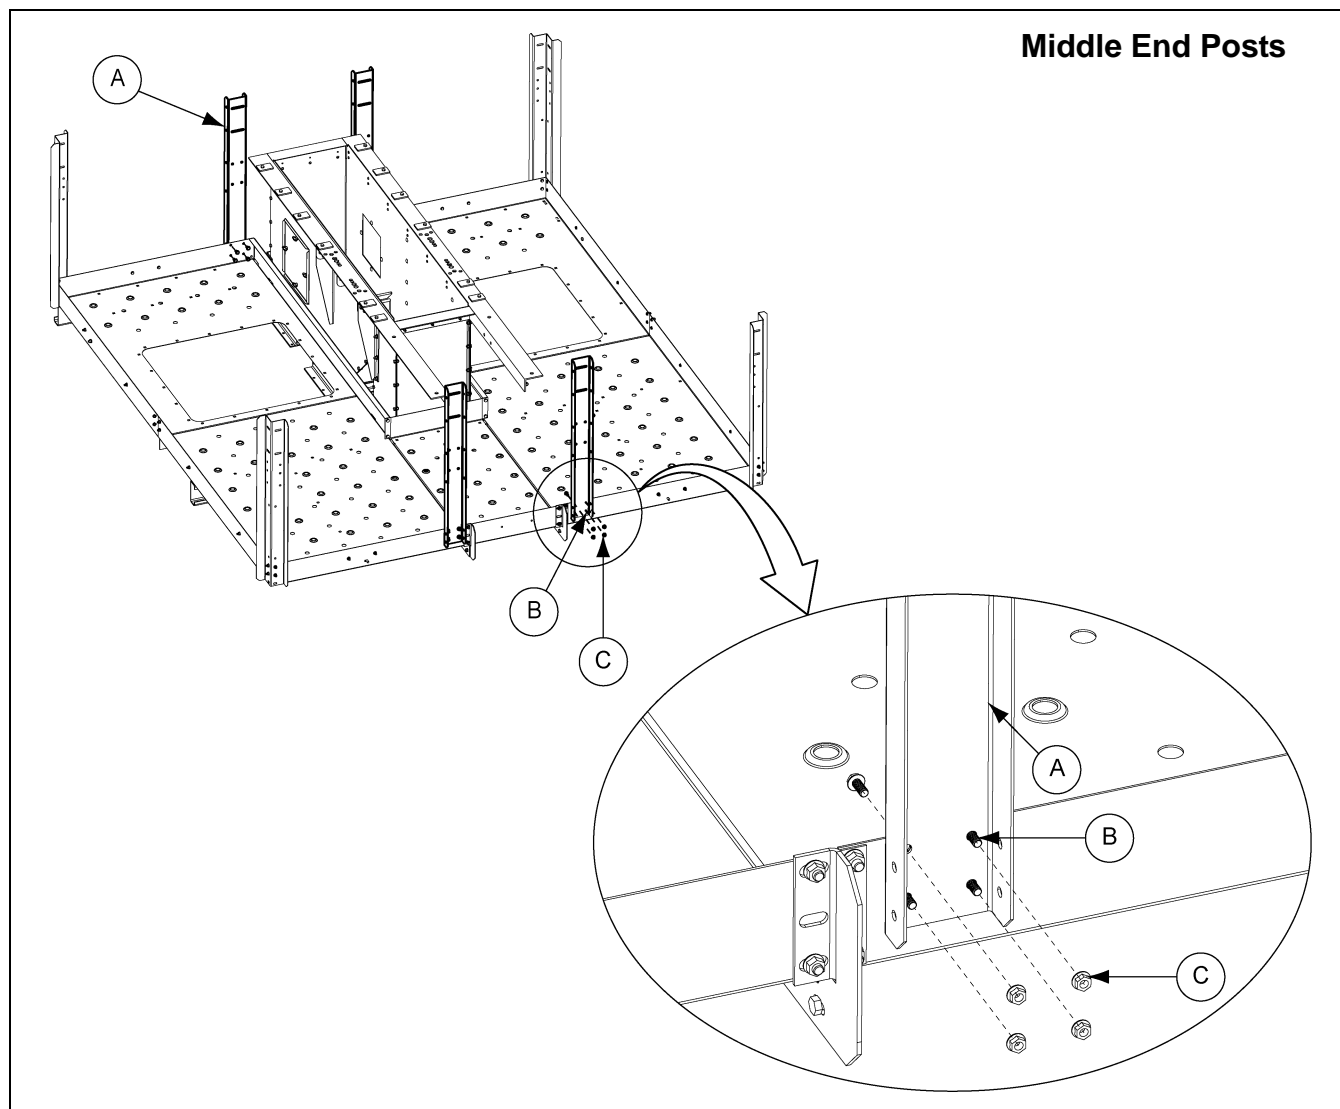

Figure 8P Middle End Posts
2. At the discharge end, align platform posts as described and attach one platform posts (HP1648HCP) to the edge of Deck C and Deck A nearest the lower head. (See Figure 8P.)